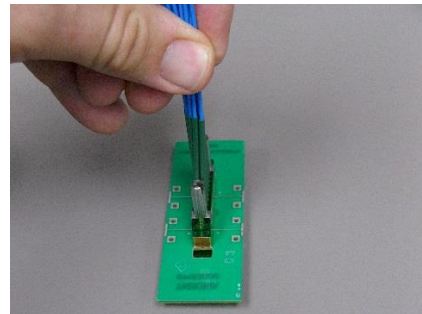

Figure 6: Holding the TR Assembly in Place
- Carefully align the two dowel pins with their corresponding holes on the PCB, 1.5mm dowel pin with the 1.5mm hole and the 1mm dowel slot pin with the 1mm slot hole (See Figure 6).
- Carefully push down on the TR block and hold it in place (See Figure 6).